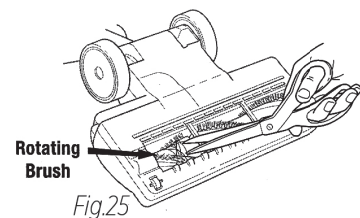

Fig.25
- 2 Inspect the opening underneath and the rotating brush. If a build-up of debris is present, remove it. Carefully cut anything wound around the rotating brush with scissors. Avoid damaging or cutting the bristles. (Fig. 25)